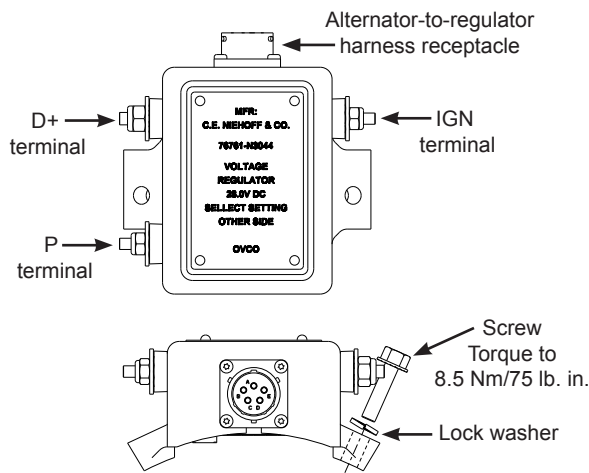

Figure 4: Conventional Regulator (N3044)
- Regulator **D+ terminal** (if required) provides DC system battery voltage to vehicle (5A maximum) for charge indicator lamp, relay, or multiplex while alternator is producing output. Torque terminal hardware to 3.4 Nm/30 lb. in. See Figures 4 and 5.
- Regulator **P/AC terminal** (if required) taps AC voltage from alternator, typically half the charge voltage (3A maximum). P/AC terminal provides alternator RPM frequency at 10:1 ratio for use with tachometer. Torque terminal hardware to 3.4 Nm/30 lb. in. See Figures 4 and 5.